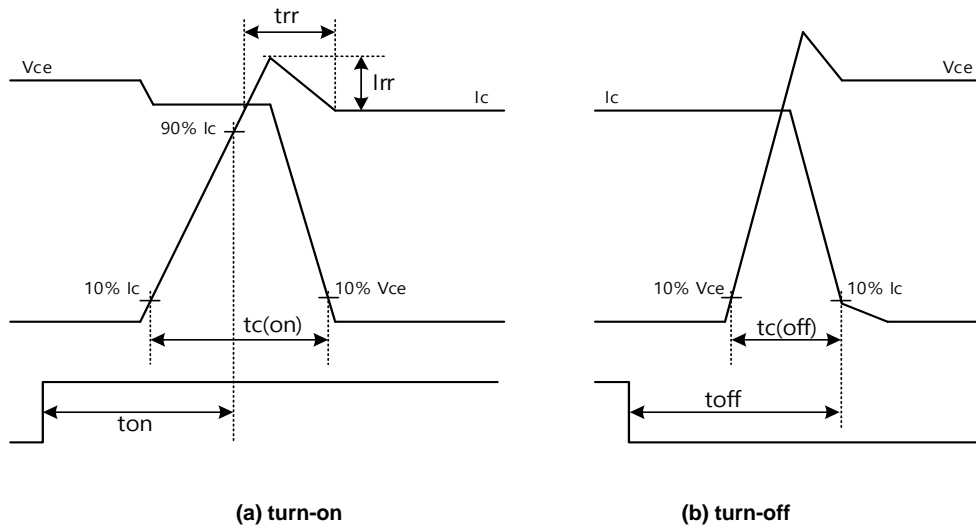

Figure 3. Switching Time Definition
3. t_{on} and t_{off} include the propagation delay of the internal drive IC. $t_{c(on)}$ and $t_{c(off)}$ are the switching times of IGBT under the given gate-driving condition internally. For the detailed information, please see Figure 3.